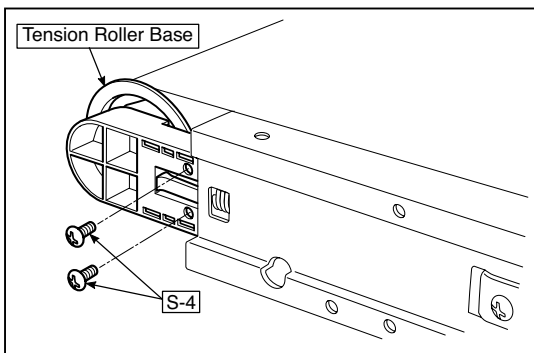

Fig.27
- 3.Remove the stopper “S-4” screws in the (two upper and lower) Tension Roller Bases shown in the figure 27.